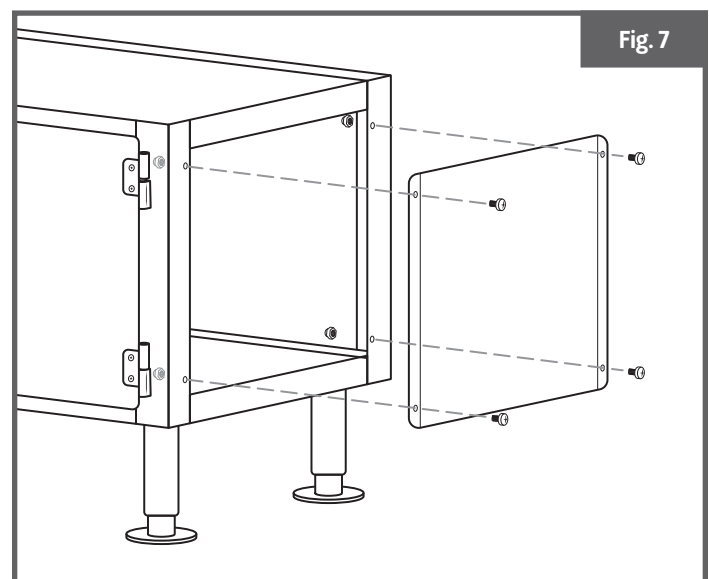

Fig. 7
2. Attach using (4) Pan Head Screws & (4) Cap Nuts. (Fig. 7)